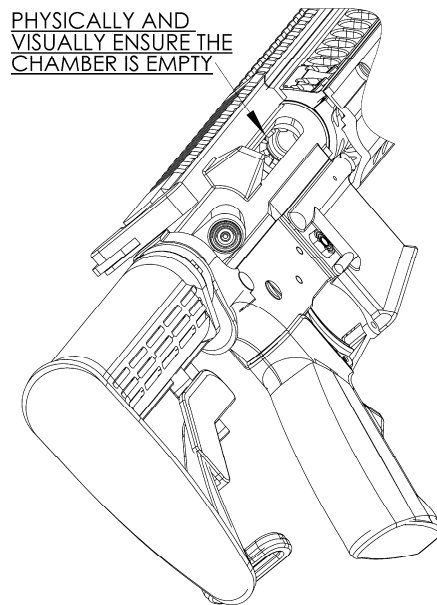

Figure 12.
4. Visually and physically inspect the chamber to ensure that it is empty. (Figure 12).